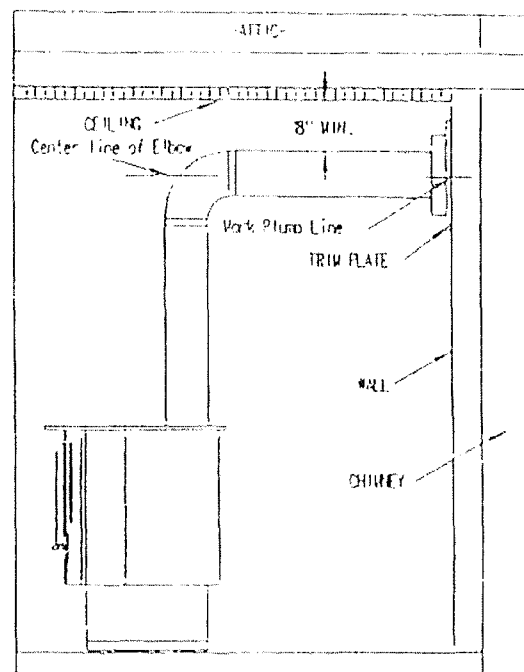

FIGURE 18 Flue Gas Exit into Masonry Chimney
- (c) Secure each section to each other using at least three (3) sheet metal screws or rivets.
- (d) Use the screws and pipe mounting clips provided and secure the chimney connector to the heater. (See Figure 18). The New Buck Corp. Chimney Connector may also be used instead of the pipe mounting clips if desired.